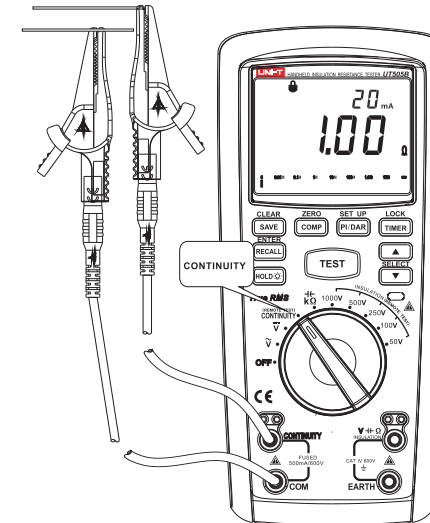

Figure 6
3. Measuring of CONTINUITY (See Figure 6)
- ① Insert the red probe into “CONTINUITY” jack (red jack), and black one into “COM” jack (black jack).
- ② Rotate dial switch to “CONTINUITY” tap position and connect the probe to the circuit tested in parallel.
- ③ Press the key of “TEST” and measured value will be displayed on the display.
- ④ In measuring, if intending to save measured voltage, press the key of “SAVE/CLEAR” for saving.
- ⑤ In order to guarantee measuring accuracy, it is necessary to reset the instrument probe before measuring, which is aimed at eliminating error from the probe; specifically, short-circuit the alligator clips of two probes, press the key of “TEST” and display reading will be resistance of lower than 2.00Ω . Hold “COMP/ZERO” for 3s and symbol of “ZERO” will be displayed on the top left corner of the display and display reading will be “ 0.00Ω ”, indicating zero success. In the test, if fuse loses efficacy, instrument display will display warning character of “FU FAIL” and stop testing, which reminds users that fuse has failed, and fuse shall be replaced before reusing.
- ⑥ If intending to activate buzzing function (when testing value is not higher than 30Ω , buzzer will give out long ring), please set in SET UP function. When LCD displays “bu ON” or “bu OFF”, switch to OFF with UP/DOWN key and press ENTER to disable the buzzing function. Switch to ON and press ENTER to activate buzzing function. When using buzzing function, please be sure that comparing function is disabled.